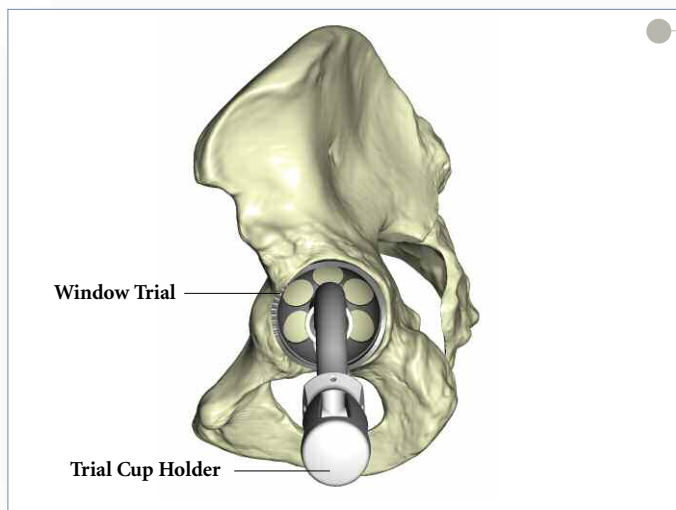

Figure 5
- ▶ Following the reaming procedure, the appropriate Restoration ADM Window Trial of the same diameter as the last spherical reamer used, either left or right, is locked onto the Restoration ADM Trial Cup Holder. This is done by pulling the locking mechanism and releasing it after the window trial is set. The window trial is then placed in the acetabulum to evaluate the size and congruity of the preparation (Figure 5). The trial is “windowed” for visualization and assessment of fit, contact and congruency of the trial within the acetabulum.